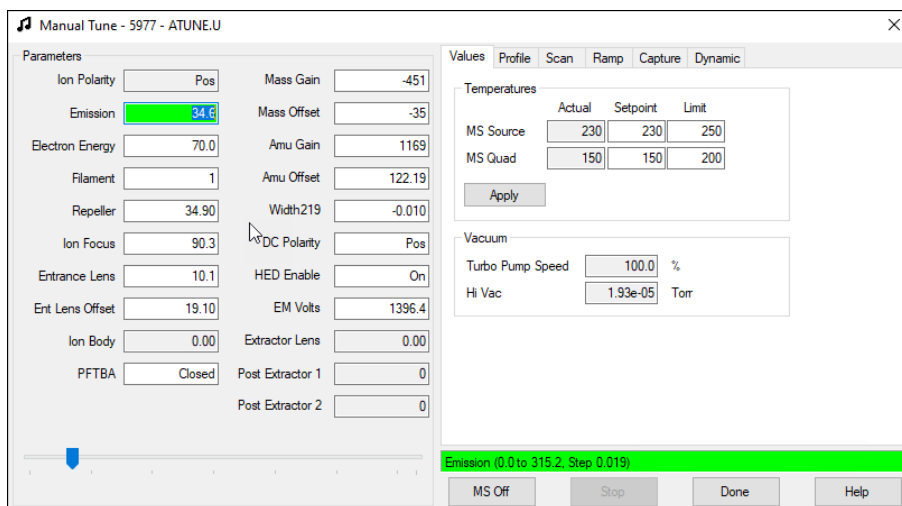
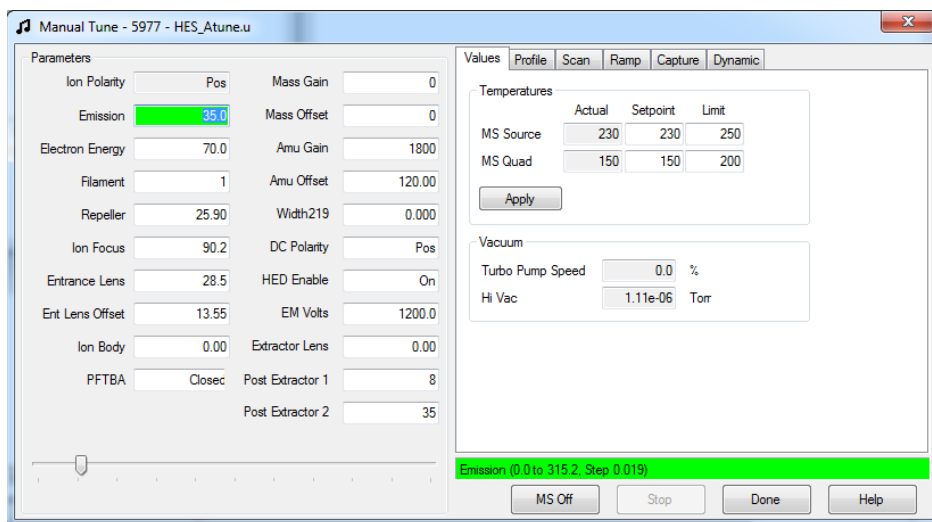

Figure 23. Manual tune values tab
Figure 24. HES manual tune values tab
- 2 Click the **Values** tab to view the MSD Temperatures and Vacuum. (See **Figure 23** and **Figure 24** on page 90.)